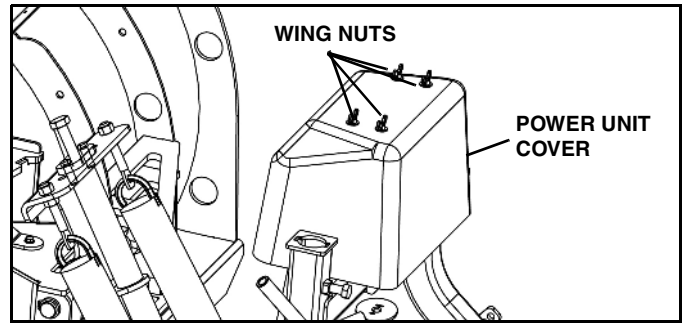

Figure 1-13
10. Remove four wing nuts and flat washers. Remove power unit cover. (See Figure 1-13).